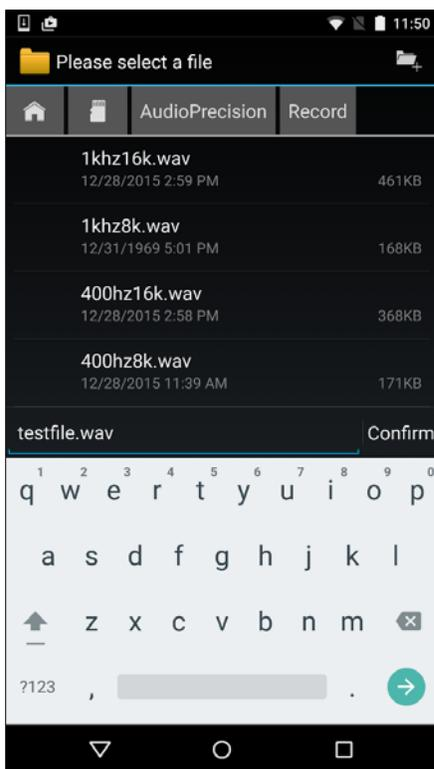

Figure 39. OI File Manager Record file selection.
**Select Audio File** invokes OI File Manager to specify a file for recording. You can choose from a list of placeholder files installed on the device in AudioPrecision\Record\ or enter a new filename for recording, in the form *myfile.wav*. See Figure 39.